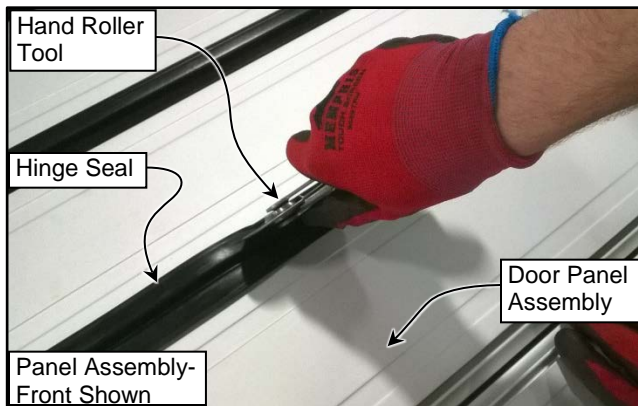

Figure 39
5. Locate the center of the hinge seal and door panel. Insert the seal into the gap matching up the centers and firmly press the seal edges into the channel with the hand roller as shown. Press the center 2ft – 3ft into place. Repeat this process on both sides until the seal is completely inserted into the channel just as the pre-installed seals. (See Figure 39)